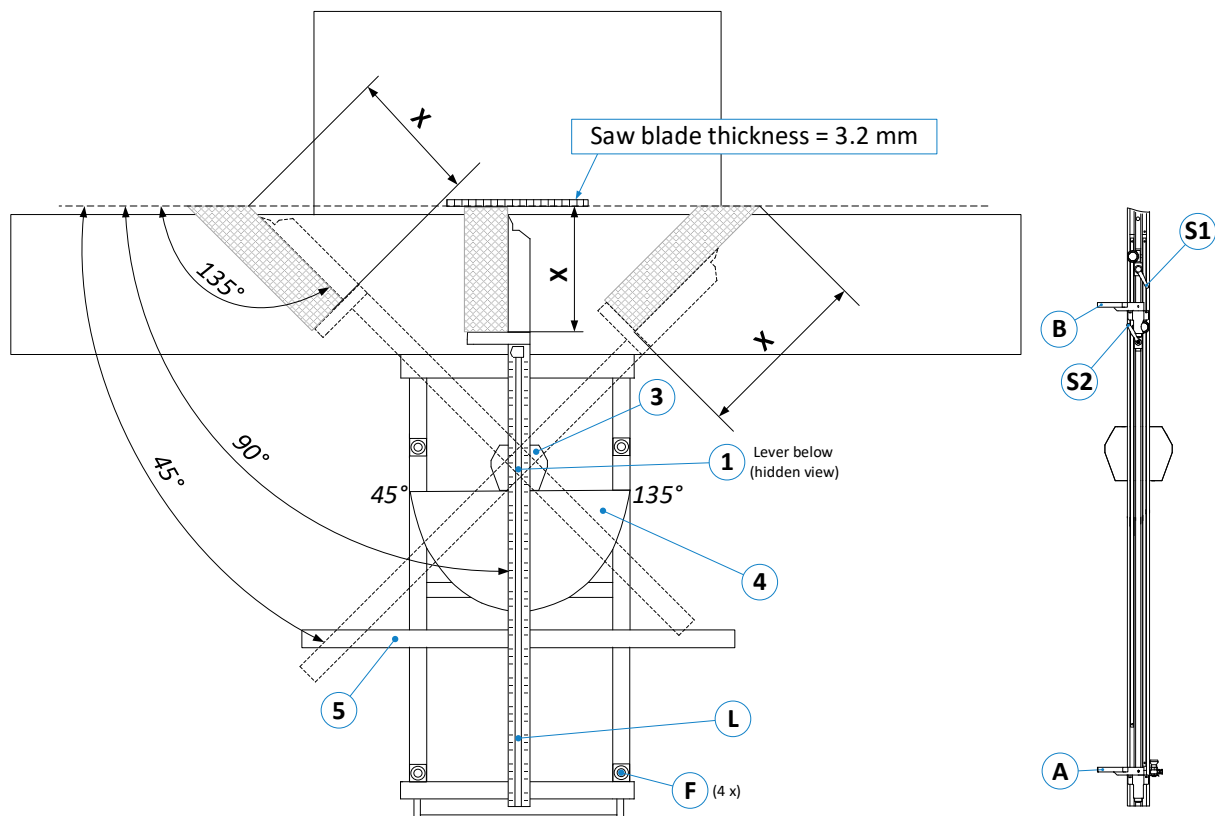
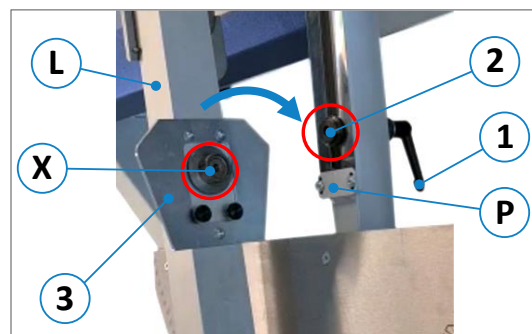

Figure 70: Super Gehrfix I overview
Figure 71: Attach cross-cut fence
- Loosen clamping lever (1) and push the locating bolt (2) in the direction of the stop plate (P) as shown in ⇒ Figure 70 and ⇒ Figure 71.
- Now place the cross-cut fence (L) on the cross slide so that the locating pin (2) can be inserted into the receptacle (X) on the underside of the stop plate (3).
- Then tighten the clamping lever (1) again.